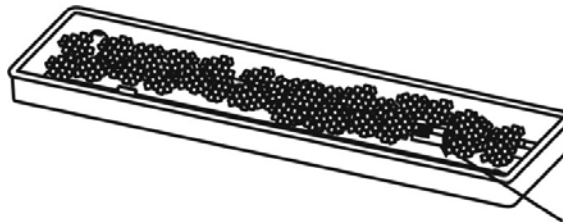

Figure 4
2. Remove the cardboard cover from the ignition well as shown in Figure 4. Remove any lava rock or fire ice on top of ignition well.